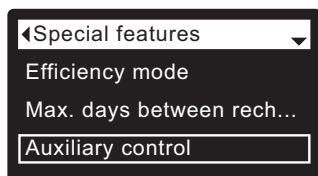

FIG. 94
1. From any of the rolling status screens, press the SELECT (O) button to display the **Main menu**.
3. Press the SELECT (O) button to display the Advanced settings menu.
5. Press the SELECT (O) button to display the Special features menu (See Figure 94).
9. Press the SELECT (O) button. The display will go back to the Special features menu (Figure 94).